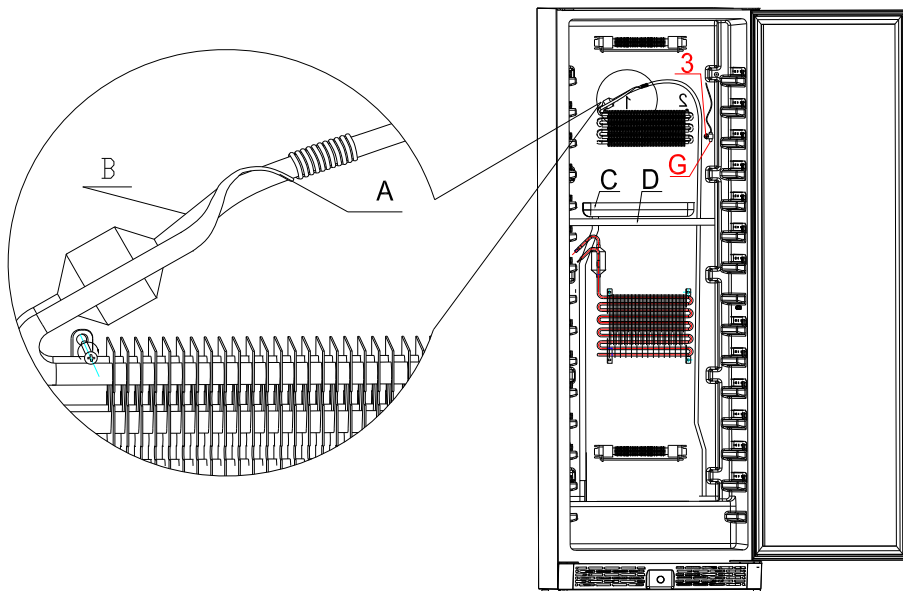
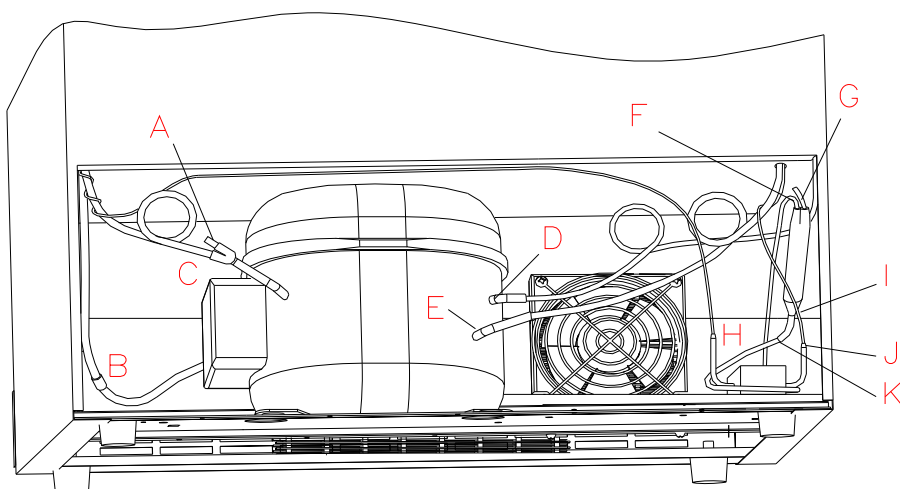

Fig. 3
Fig. 4
Statement: (Fig.4) shows the correlative diagram Fig.4
Turn on the unit and check there is electricity current flowing to the compressor using a caliper type Amp meter, the current should be within 0.6 to 2 Amps. If the readings are not in this range, turn off and cut off the pipes (See Fig.4 showing D) and the process pipe (See Fig.4 showing A.) from the compressor, then turn the unit on again (**in this case only run the compressor for a few minuets, so as to avoid the compressor absorb moist air**) and recheck the current and if there is pressure at the outlet pipe. If the current reading is still out of range specified above and no pressure from the compressor outlet, replace the whole compressor.
b.Infill 0.8-1MPa nitrogen,and check the welding point point around the compressor (→5) (Fig.4) with soap water.If there isn't any leakage,please take apart the airduct board(→3、 →4) (Fig.2.1 & Fig.2.2 & Fig.2.3 & Fig.3) and check the welding point aroundn the evaporator(→4)(Fig.3).
1>. Using the vacuum pump form a vacuum in the system, via the joint of the low-pressure process pipe on the compressor (→5) (Fig.4 showing A) , the high-pressure pipeline is on the process pipe of the filter (Fig.4 showing G). Apply the vacuum pump for approximately 20 minutes. Until the vacuum is lower than 100Pa. Then solder the compressor process pipe of the filter. Keep the vacuum running while soldering this joint
2>. Fill Cooling system with refrigerant via the process pipe (→5) (Fig.4 showing A). (The refrigerant is R134a. Regarding refrigerant quantity Please refer to the instruction at back label of wine cellar). Then solder the compressor process pipe after the system is charged with refrigerant.
d. The scene after taking away the airduct board show below. the evaporators are same. (Fig.3)
○ Front side joints location. See (Fig.3)
○ Rear side view of the joints position (Fig.4)
- 1>. Heat the soldered joint of the capillary (“A” of Fig.3), then remove the capillary from the evaporator and smooth the end with an eraser. (Caution: do not allow any particles into capillary unit)
- 2>. If the capillary touch the inner cabinet and the air duct board, adjust the position of the capillary and add the incabloc plastic. (→4) (Fig.3)